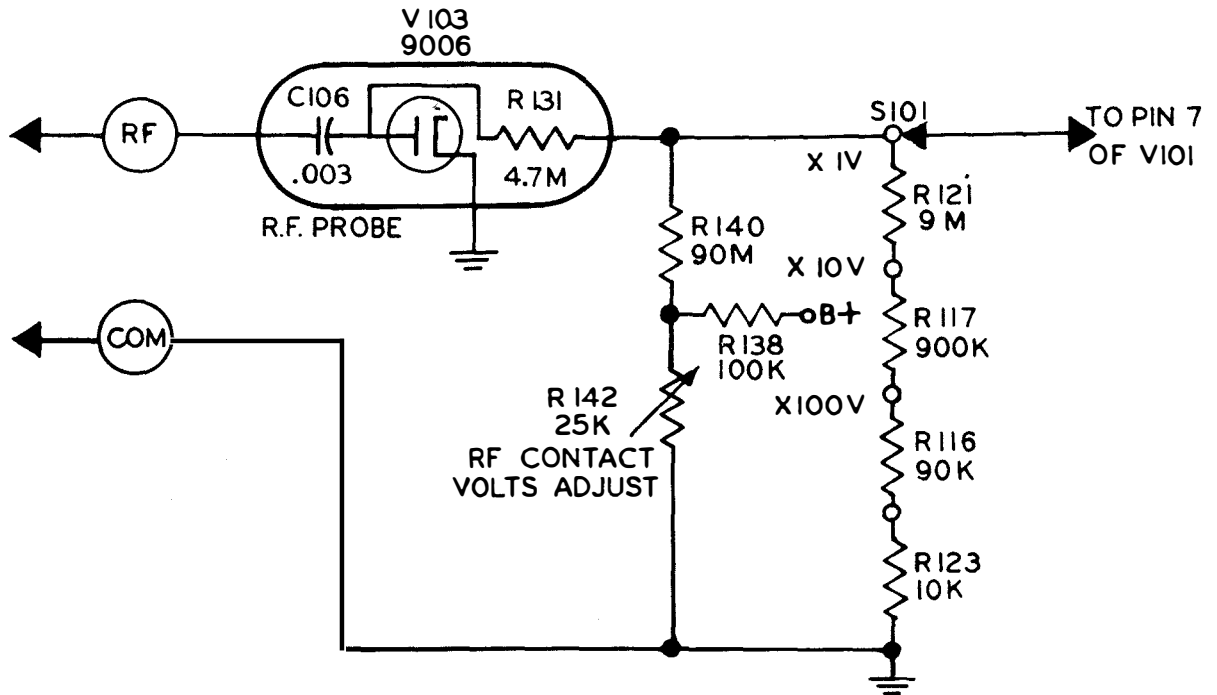

Fig. 2-4. R. F. VOLTMETER CIRCUIT
c. RF VOLTMETER CIRCUIT. (See Fig. 2-4)